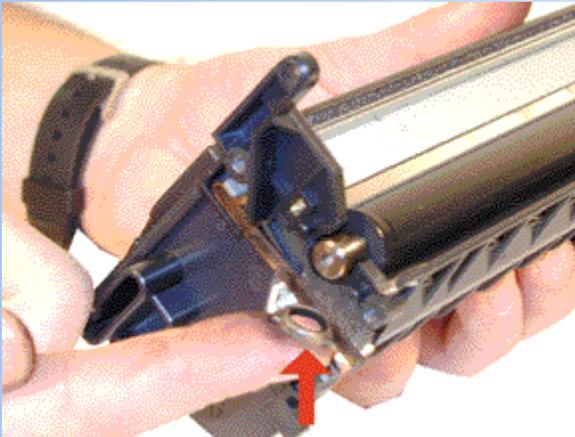

FIGURE 38
30. Replace the metal bushing on the developer roller shaft. See Figure 38